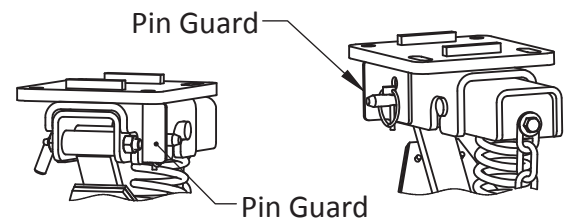

Figure 4
- Insert the Bent Pin through the aligning holes in the Header Bracket and the Stalk Stomper Assy securing the Stalk Stomper Assy into position. Install the Pin Guard onto the Bent Pin with the shield facing the front of the corn head (Fig. 4). Insert the Lynch Pin into the Bent Pin flipping the locking loop on the Lynch Pin over the end of the Bent Pin locking the pins together and securing the Pin Guard between the Lynch Pin and the Header Bracket.